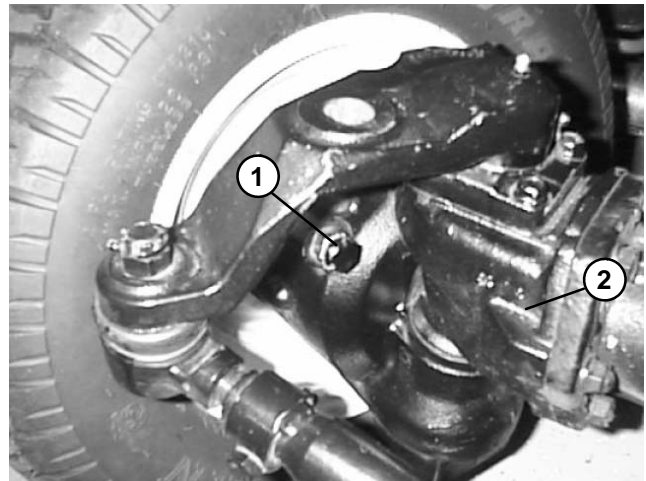

Figure 12
15. Check steering stop bolt adjustment. When the steering cylinder is fully extended (right turn), a gap of 1/16” (1.6 mm) should exist between bevel gear case casting and stop bolt on left axle case. Figure 12 shows stop bolt location.